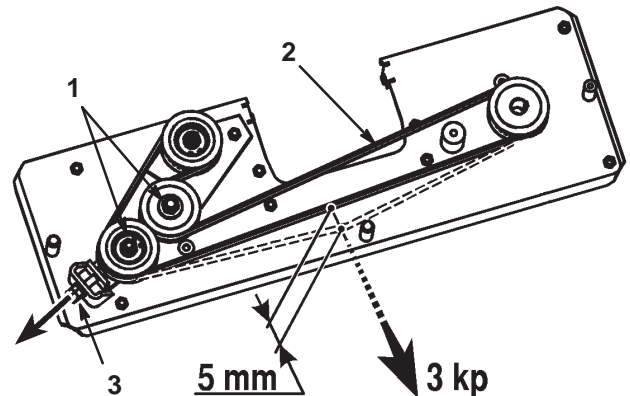

Figure 43
- Loosen the two hex nuts on the idler pulley (Fig. 43).
- Adjust the M10 nut until the belt flexes 5 mm with 3 kp of force (Fig. 43).